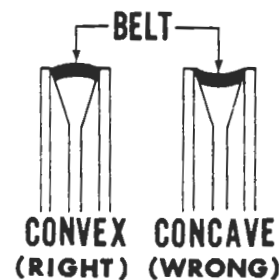

Figure 3
4. Adjust motor belt by loosening four nuts (G) and moving motor assembly until belt is properly adjusted -- steps 1 and 2 above.
5. When properly tensioned, belts should be slightly convex -- refer to fig. 3.